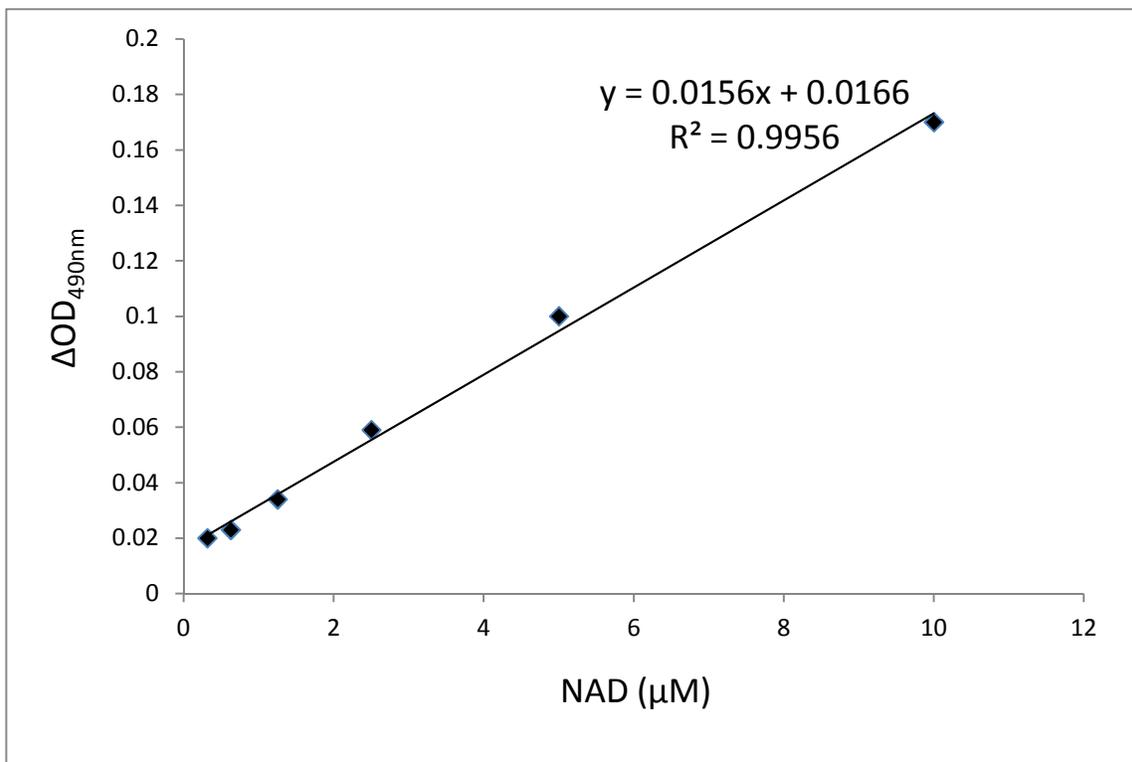

Figure 1. A typical NAD standard curve measured by ScienCell™ NAD/NADH Assay kit
Data from NAD/NADH Assay of NAD solutions with concentrations ranging from 0.5 to 10 μ M show a linear relationship between OD_{490nm} and NAD concentration (Figure 1).
2. Based on the calibrated ΔOD_{490nm} of the NAD standard, make a standard curve by plotting ΔOD_{490nm} as a function of NAD concentration (See Figure 1 for a typical standard curve). Determine the equation and R^2 value of the trend line.